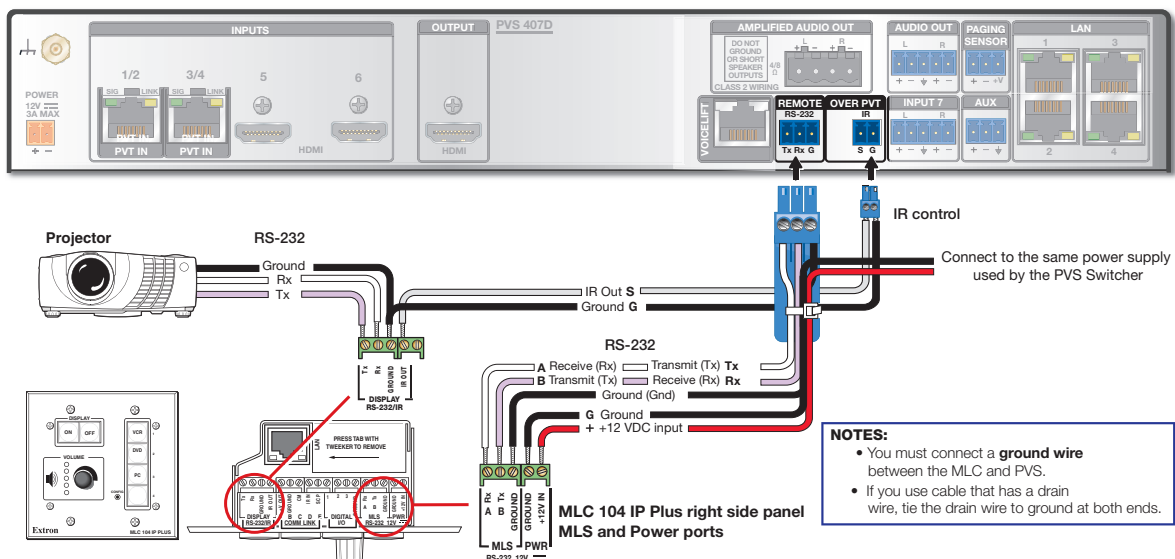

Figure 2. MLC 104 IP Plus to PVS 407D Connection
- J Remote (RS-232/MLC) control port** — Connect a cable between this port and an MLC MediaLink Controller (see figure 2 on the previous page). The PVS switcher can be controlled via an RS-232 connection directly from a host computer, a control system, or a MediaLink® Controller (MLC). The MLC provides remote control of input switching and volume. The RS-232 protocol is 9600 baud, 8-bit, 1-stop bit, no parity, and no flow control. See the *MLC 104 IP Plus User Manual* for full details.
NOTE: To power the MLC 104 IP Plus, wire it directly into the same power supply the switcher uses (see figures 2 and 3).